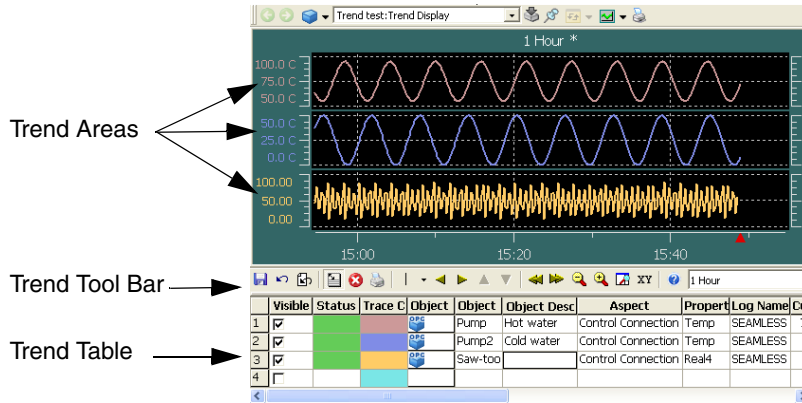

Figure 100. Trend Display Main View
- The standard layout, this is the Main View (Figure 100).
The first two layouts are divided into three areas: the Trend Area, the Trend Tool Bar and the Trend Table, see Figure 100.